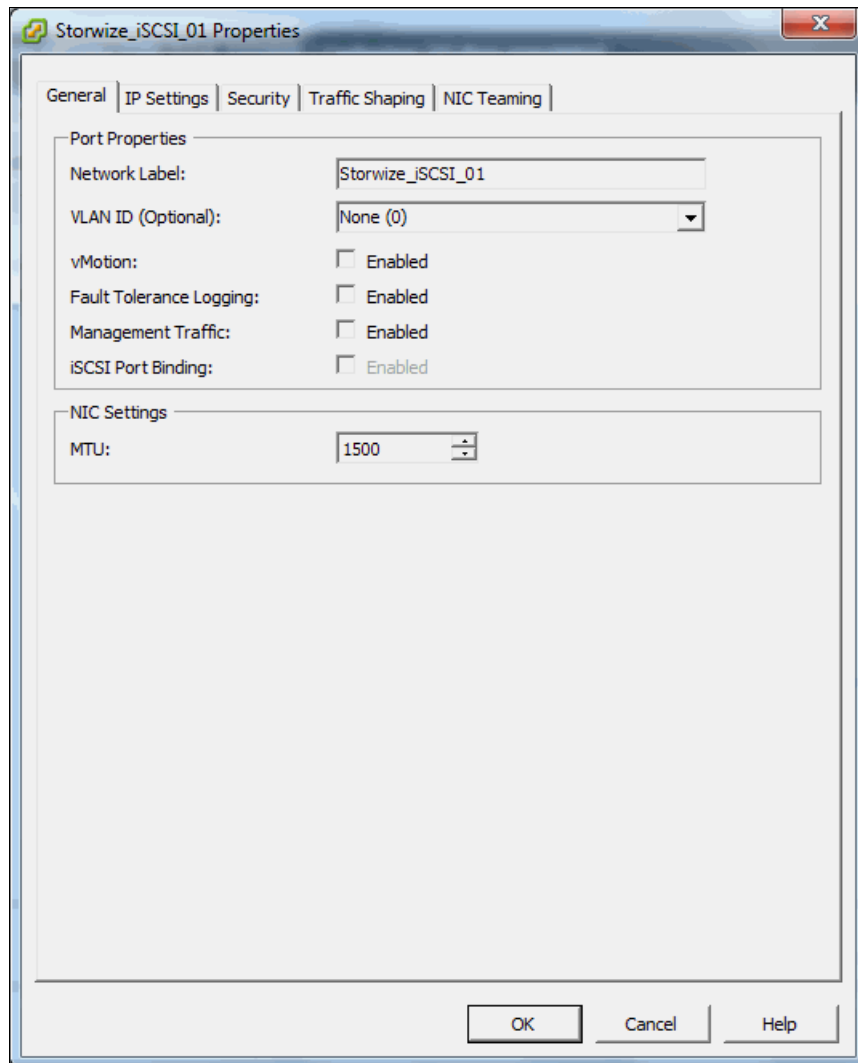

Figure 4-29 Editing a VMkernel port
3. Select one of the VMkernel ports and click **Edit**. The window shown in Figure 4-29 should open.